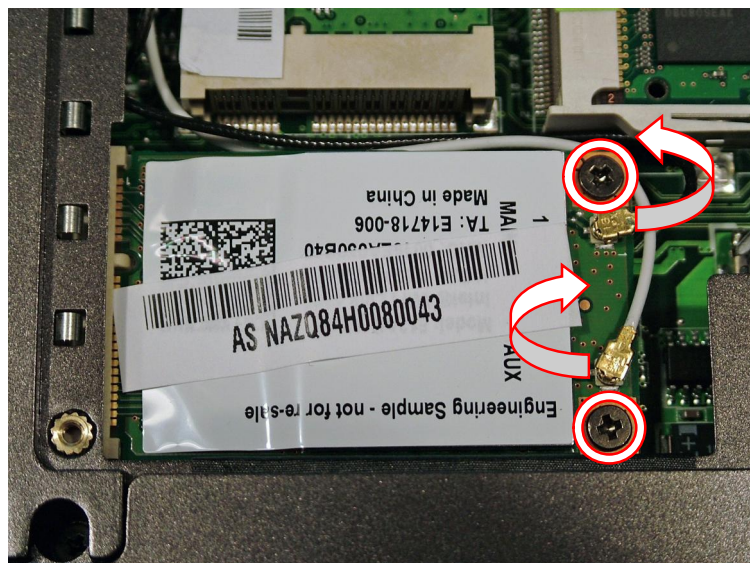

Fig. 6 Location of WiFi antenna cable connectors and screws.
4. Remove the screw securing the wireless LAN adapter; it will eject upwards (see Fig. 6 on page 6).